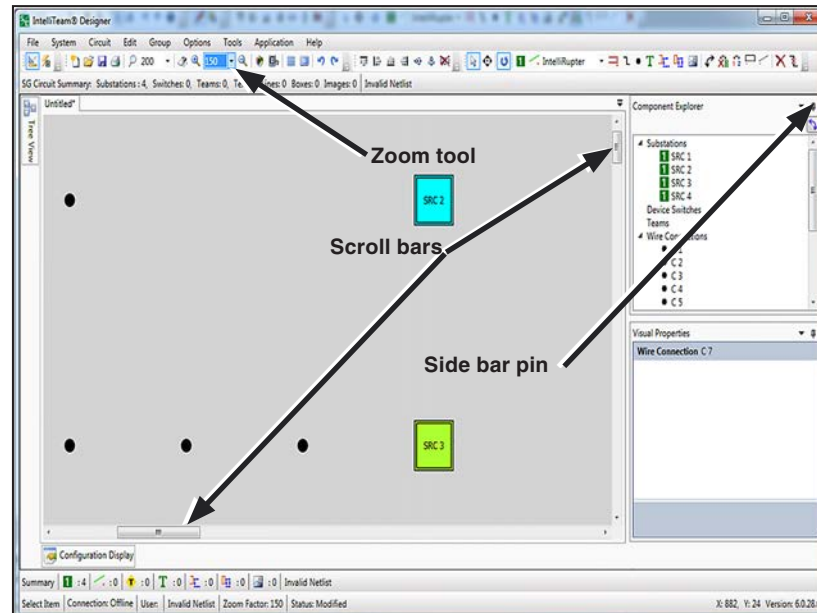

Figure 42. Zoom in to make the wire connection process easier.
STEP 1. Click the side bar pin to open the Component Explorer dialog box if it is not already open. Set the zoom to 150%. Use the scroll bars to position SRC 2, as shown in Figure 42.